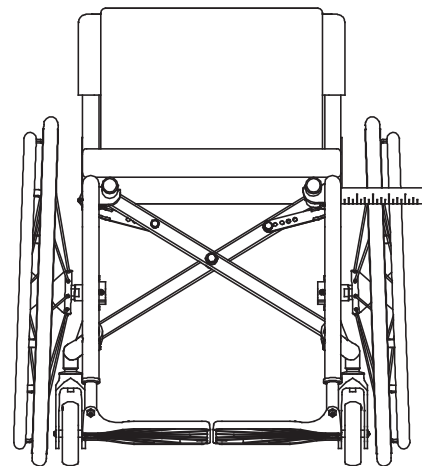

Figure 63
14. Measure the distance from the tube to the inside of the tire at the front of each tire on both sides of the frame ("Measurement B"). See Figure 63.